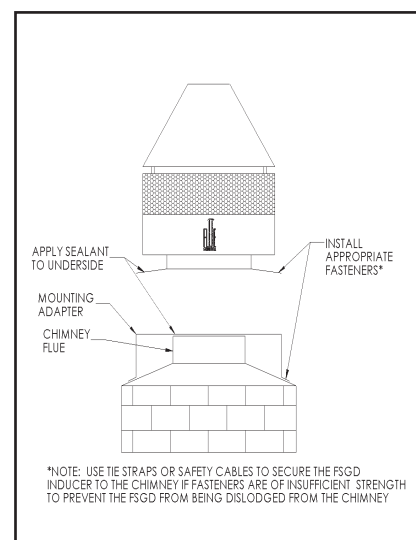

FIG 2
4. Installing the Chimney Top Inducer system over a single flue, if the flue extends over  $\frac{3}{4}$ " above the chimney cap (see Figure 2), or will not fit inside the FSGD damper housing.